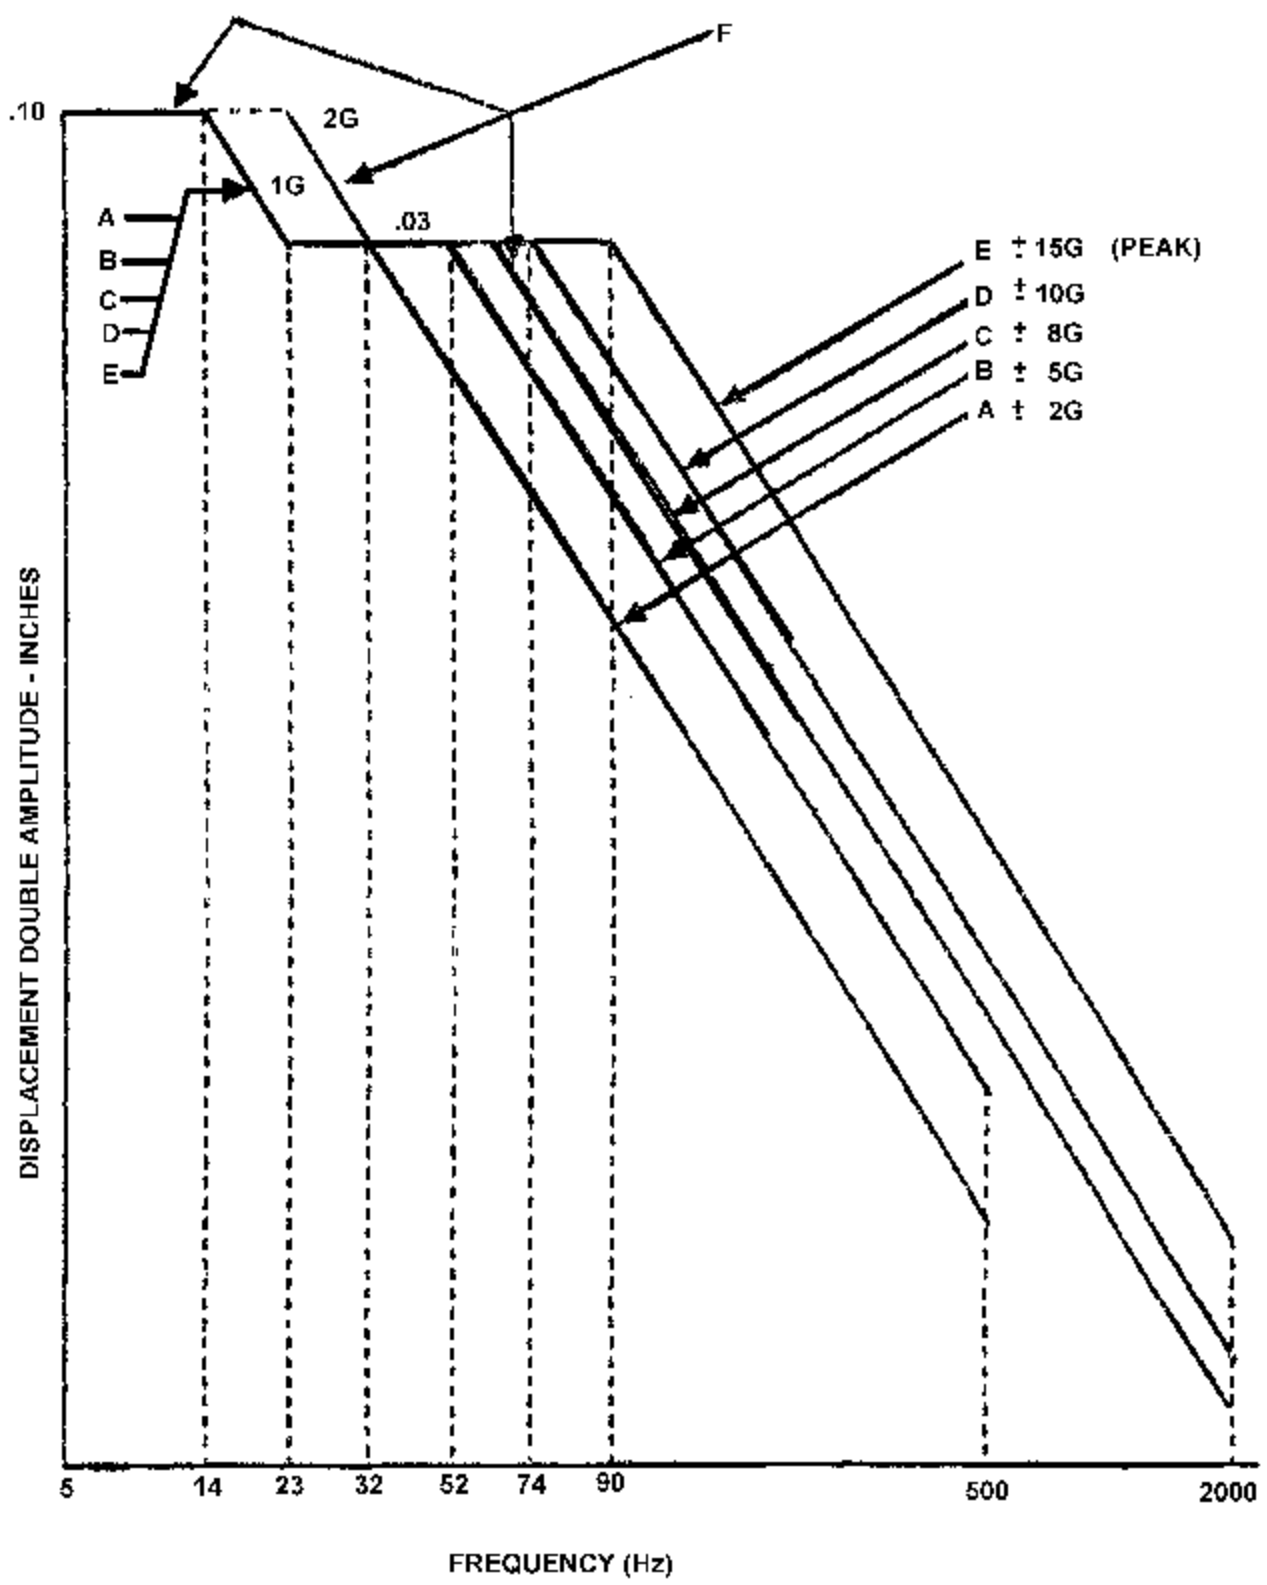

Figure 1 - Sine Vibration Test Curves
- 2) The Sine Vibration Test Curves are shown in Figure 1. The curve selection shall be based on Table 1.